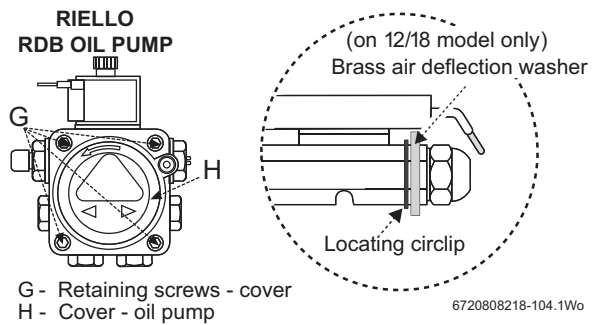

Fig. 81 Pump detail
- ▶ The internal filter is accessed by removing screws (G) and the oil pump cover (H), refer to figure 81.